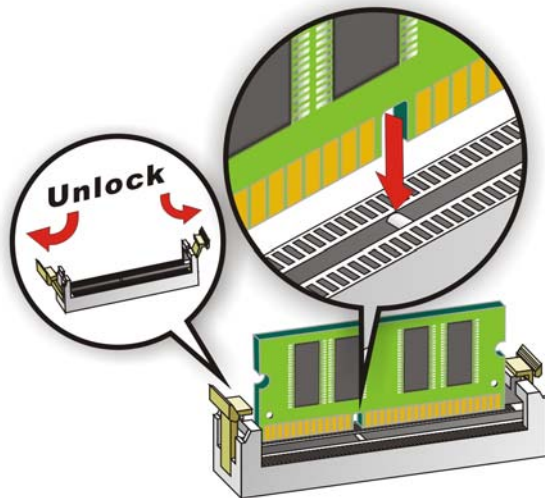

Figure 4-6: SO-DIMM Installation
To install a SO-DIMM, please follow the steps below and refer to **Figure 4-6**.
- Step 1: Open the SO-DIMM socket handles.** Open the two handles outwards as far as they can. See **Figure 4-6**.
- Step 2: Align the SO-DIMM with the socket.** Align the DIMM so the notch on the memory lines up with the notch on the memory socket. See **Figure 4-6**.
- Step 3: Insert the SO-DIMM.** Once aligned, press down until the SO-DIMM is properly seated. Clip the two handles into place. See **Figure 4-6**.